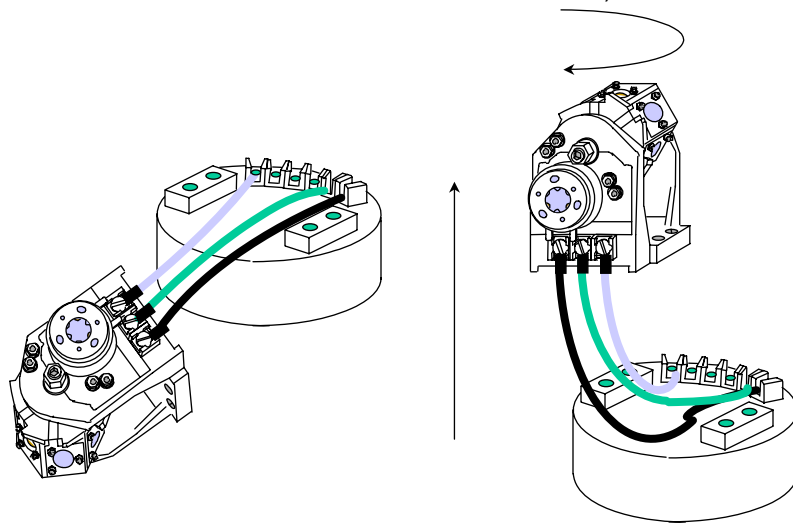

Figure 4-7
- b. Select the appropriate flasher and lampchanger based on the description in section 4.A.b. If using a programmable flasher, select the proper rhythm. NOTE: FL2.5 (1), FL4(1), FL6(1) and ISO2 are RARELY used. Do not confuse them with the other flash rhythms.
- d. Run the wires across the flasher and install the other end of the WK-681 wiring kit to the flasher's terminals *from the inside*, as shown in Figure 4-7. Then turn the lampchanger 180 degrees as you place it on the flasher so that the terminals are opposite each other with the wires under the bracket (note: the wires must pass through the 250mm's bracket, so wire it with the bracket on the flasher).